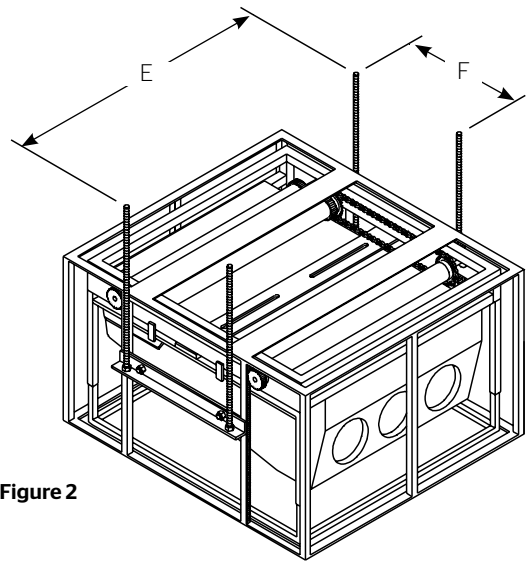

Figure 2
2. Mounting Da-Lift Projector Lift using 1/2" diameter threaded rods. Secure four 1/2" diameter threaded rods to the ceiling at the dimensions shown. See Figure 2, "E" and "F". Install the mounting bracket (1-1/2" x 19") to each side of Da-Lift with 1/2" diameter bolts, flat washers and nuts. Attach one nut on each rod and run the nut up to the desired height.